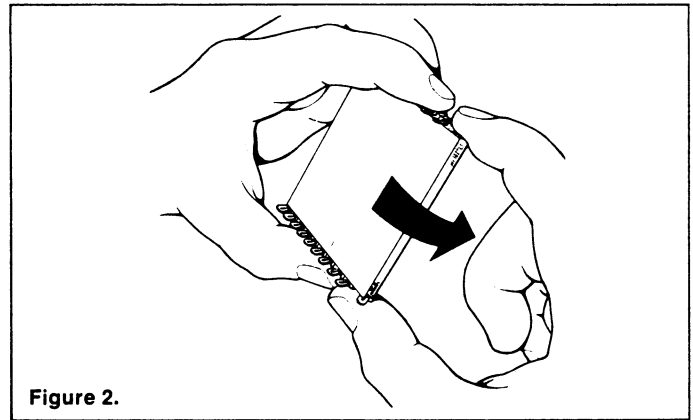

Figure 2.
5. Remove a connector cover from the paper liner by snapping cover down against adjacent cover, and then pulling laterally away from liner. (Figure 2)